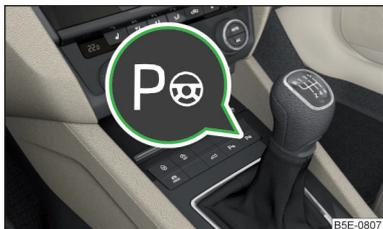

Fig. 262
- The parking process can be terminated at any time by pressing the button  » Fig. 262 on page 228 or by a steering intervention.
The system is **activated** by engaging reverse gear and pressing P[Ⓟ] the button » Fig. 262 on page 228.